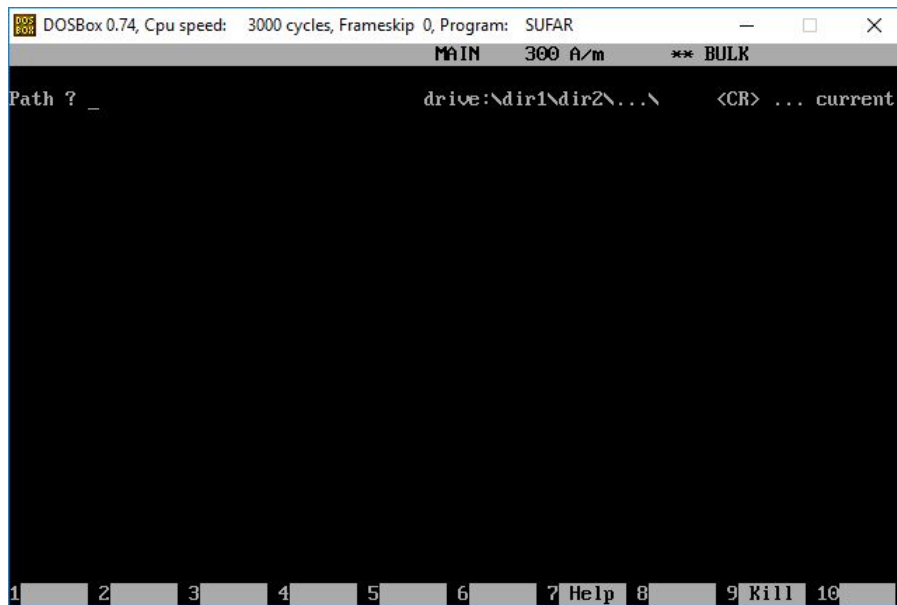

Figure 12 Sufar window requesting path to save data.
- c. Press **F5** to evaluate and save the data. If this is the first measurement made Sufar will display **Path ?** (**Figure 12**).
- b. If you wish to change the file that the data is saved to, enter # and press return. The display will now show a prompt for a Path (Figure 12).